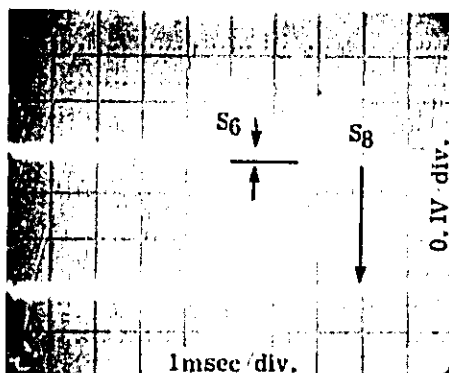

Figure 5-13. Waveform at A6TP2 (2).
- Adjust the DELAY (DIV) potentiometer slowly to about 4.5 to observe timing steps 6 thru 8 as shown in Figure 5-13. Adjust A6R52 for same DC level of steps 6 and 8 as shown in Figure 5-13 (S6 and S8 signals are adjusted to the same DC level).